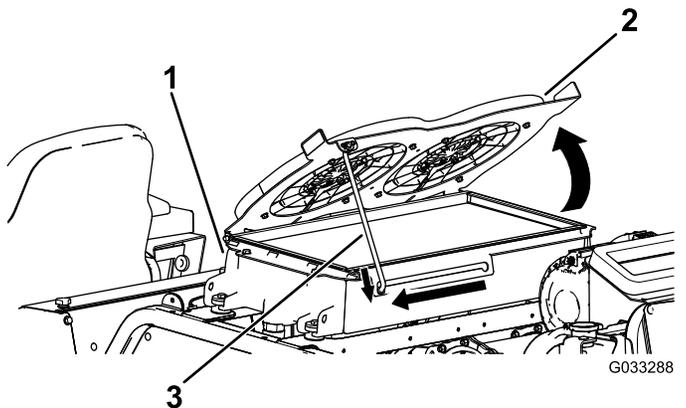

**Figure 120**
4. Pivot the hydraulic-cooling fans downward and lock the prop rod into the notch (Figure 120).